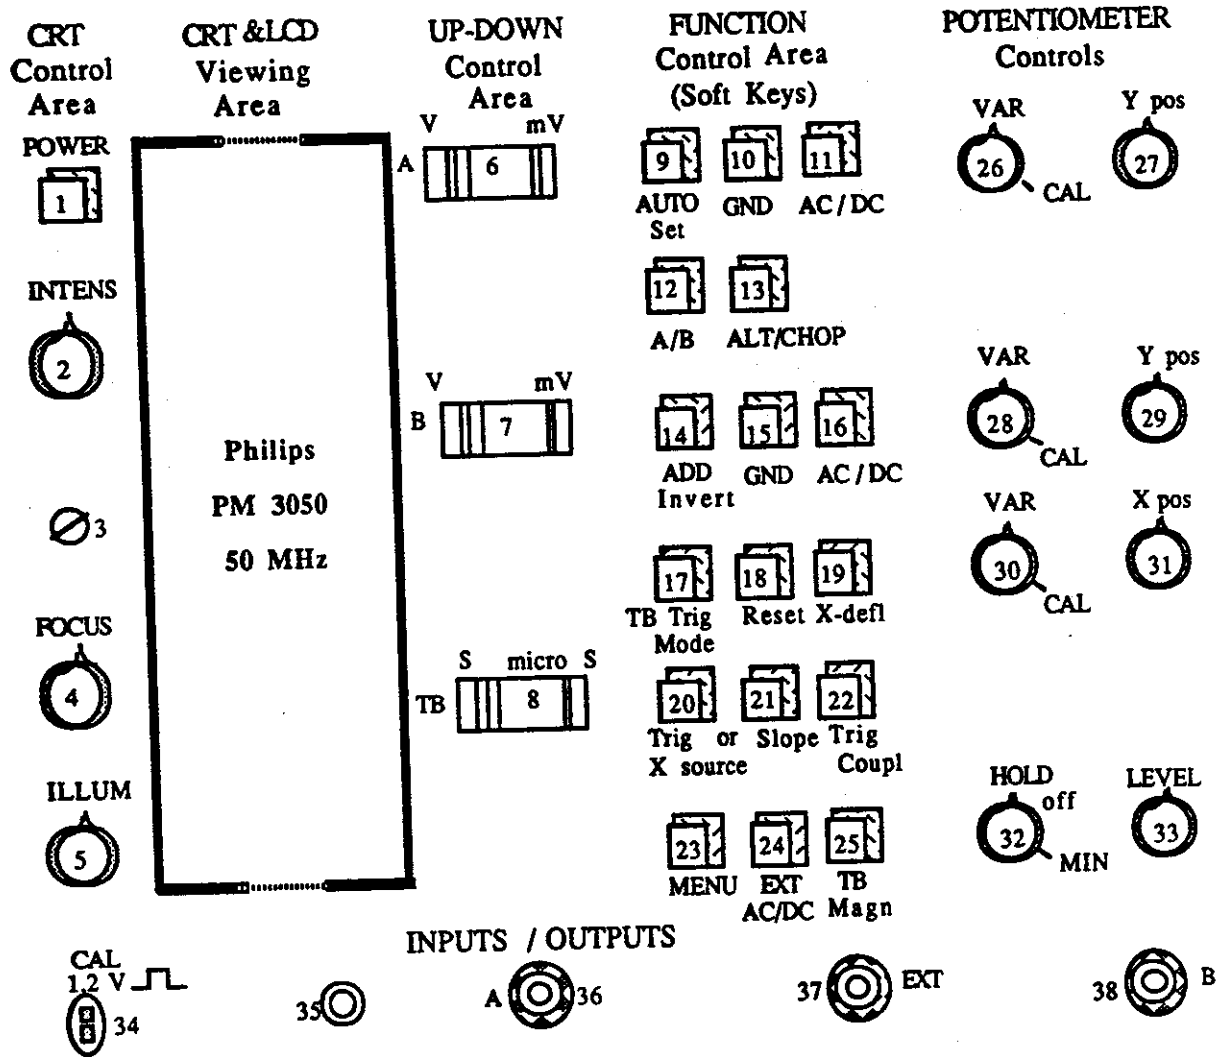

Fig. 7-3
A. Study the front panel of the oscilloscope and identify the various controls. The front panel of the oscilloscope is divided into five areas: CRT controls, CRT and LCD viewing area, UP-DOWN control area, function control area and potentiometer controls (Fig. 7-3).
Socket CAL 1.2 V (34 in Fig. 7-3) provides 1.2 V peak-to-peak (P-P) square wave voltage.
Socket EXT (37 in Fig. 7-3) is for connecting the external trigger signal.
BNC sockets A and B (36 and 38 in Fig. 7-3) are for channel A and channel B inputs.